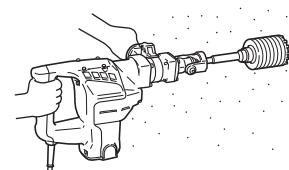

Fig. 16
- (1) Insert the plug into a receptacle.
- (2) A spring is built in the center pin. By straightly and gently pressing it to the wall or floor surface, the entire surface of the core bit tip attains contact to start the hole drilling job. (**Fig. 16**)
- (3) When the hole depth reaches approximately 5 mm, the hole position can be determined. Then remove the center pin and guide plate from the core bit and continue the hole drilling job.